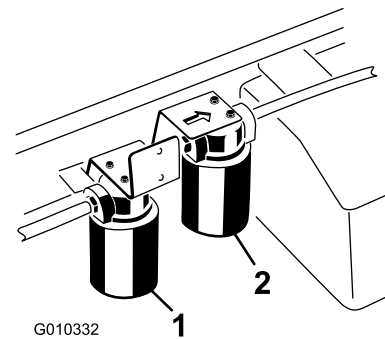

Figure 78
2. Clean the area around filter mounting area. Place a drain pan under the filter and remove the filter (Figure 78).
1. Clean the area around the high flow filter mounting area (Figure 78). Place a drain pan under the filter and remove the filter.